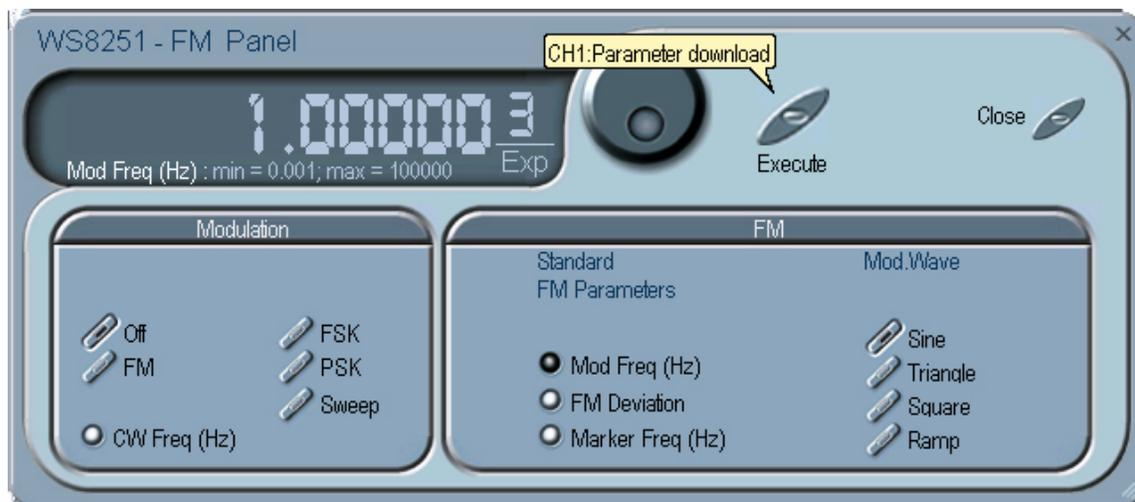

Figure 4-8, the FM Modulation Panel
The Modulation functions were designed over two separate panels, as shown in Figures 4-8 and 4-9. The panels are invoked by pressing the Modulation header and then one of the modulation panels that appear below it. These panels provide access to all modulation functions and their respective run modes and parameters. The modulation functions that are available on these panels are: FM (frequency modulation), FSK (frequency shift keying), PSK (phase shift keying) and Sweep. When modulation run is other than continuous, the instrument generates non-modulated carrier frequency (CW) until a valid stimuli signal is applied.